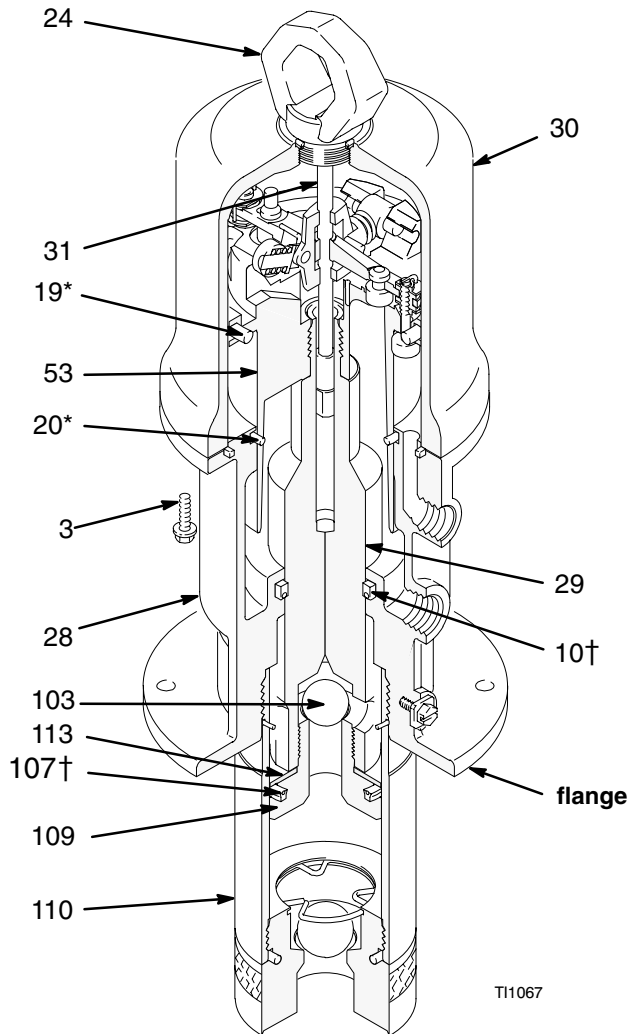

Fig. 3
2. Disconnect the hoses, remove the pump from its mounting, and clamp the air motor base (28) in a vise horizontally by closing the vice jaws on the flange.
3. Use a strap wrench on the displacement pump cylinder (110) to screw it out of the air motor base (28). See Fig. 3.
4. Remove the air motor base from the vise, and place the piston rod (29) flats in the vise with the air motor up.
5. Loosen the lift ring (24). Pull the lift ring up, grip the trip rod (31) with the padded pliers, and screw the lift ring off of the rod.
6. Remove the piston/valve seat (109) from the rod (29) with wrenches or with the vise and a wrench.
7. Remove the piston ball (103), u-cup packing (107†), and piston washer (113).
8. Remove the six screws (3) holding the cylinder (30) to the base (28). Carefully pull the cylinder straight up off of the piston (53).
- Slide the piston rod (29) down through the packing, and lower the piston (27) into the air motor base (28).
- Clamp the air motor base (28) in a vise horizontally by closing the vice jaws on the flange.
- Install the u-cup packing (107†) with the lips up, and place the piston washer (113) on the piston/valve seat (109).
- NOTE:** Make sure the lips of the u-cup packing (107†) face up. See Fig. 3.
- Place the piston ball (103) in the piston rod (29).
- Apply Loctite® to the threads of the piston/valve seat (109), and thread the assembly from Step 14 onto the piston rod (29).
- Clamp the flats of the piston/valve seat (109) in a vice, and, using a crow's-foot wrench, torque the piston rod (29) to the piston valve seat to 40 to 60 ft-lb.
- Use a strap wrench to screw the displacement pump cylinder (110) to the air motor base (28), and torque with a crow's-foot wrench to 95 to 105 ft-lb.